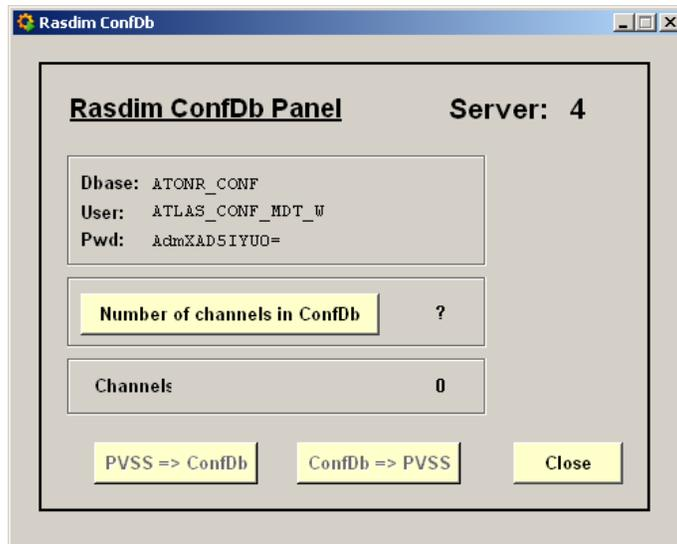

Figure 2.17: ConfDb panel
16. The only part missing are the channel datapoints. Select the ConfDb button at the lower part of the configuration panel. A panel will appear as shown in Figure 2.17.